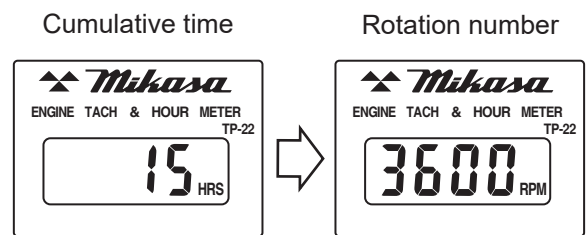

Fig.13
- 9 "Rotation number" is displayed during operation. (Fig.13)